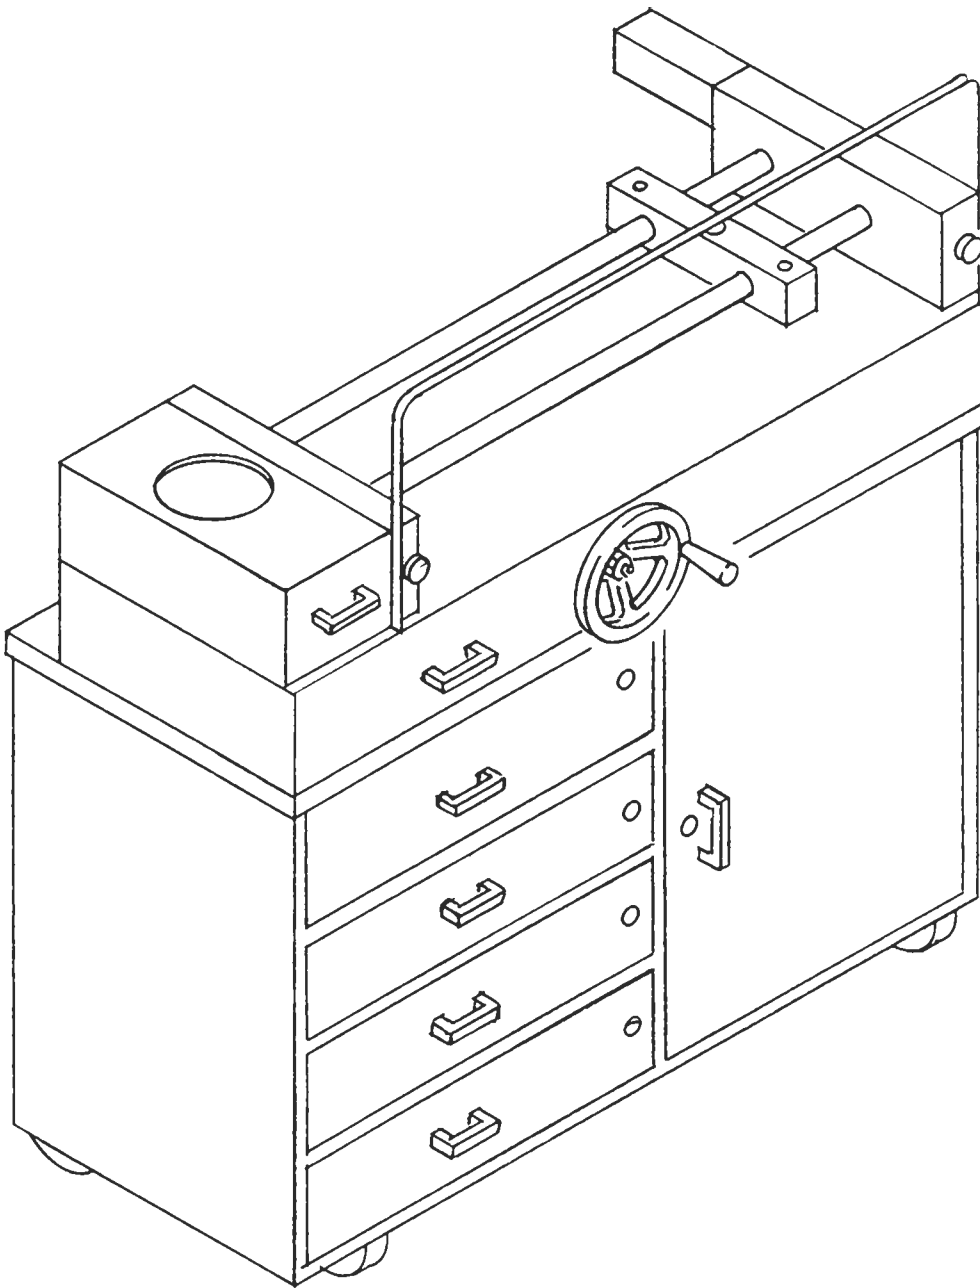

Figure 1-1. High Torque Station
1.5.1 High Torque Station (See Figure 1-1).